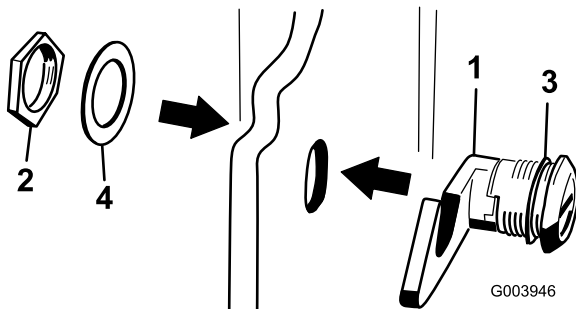

Figure 18
3. Remove the nut from the hood latch assembly (Figure 18).